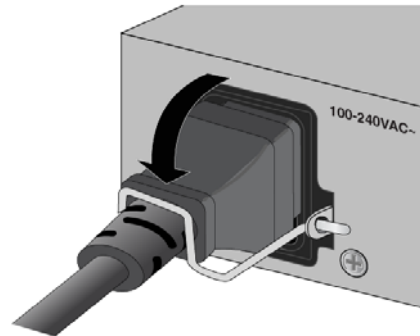

Figure 50. Lowering the Power Cord Retaining Clip
3. Lower the power cord retaining clip to secure the cord to the switch. Refer to Figure 50.